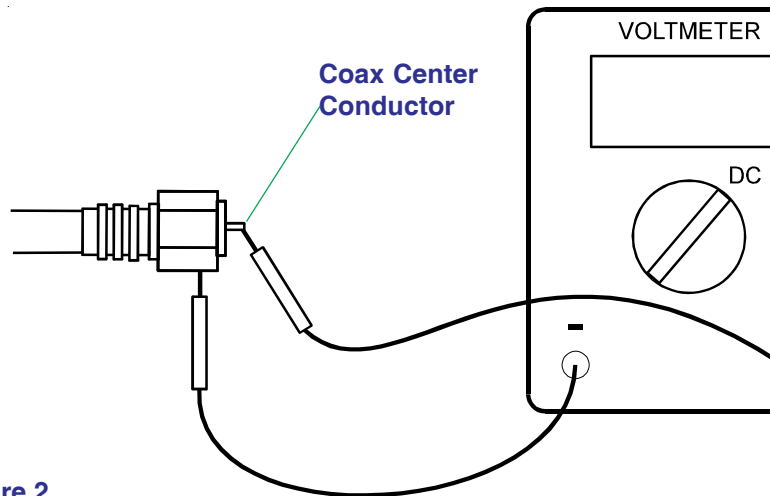

Figure 2
7. Check for +12 to +19 VDC at LNBF coax connector, see Figure 2. If correct voltage is present, proceed to step 11; if there is no voltage, proceed to next